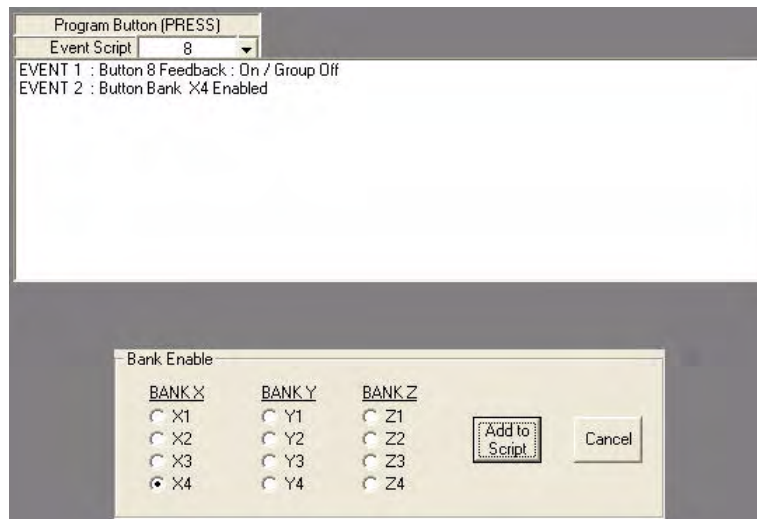

FIG. 71 Button 8 script, with Enable X4 Bank selected
9. Write a script for the Tuner select button including enable Bank X4 in the script (FIG. 71).